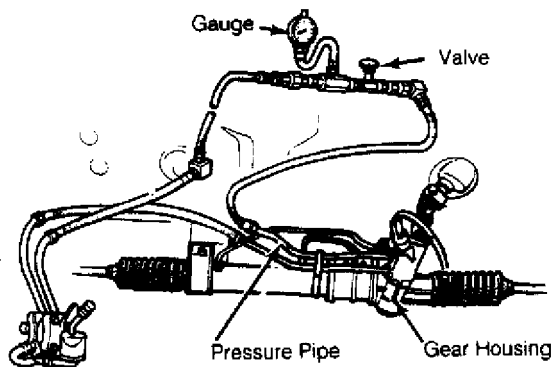

Fig. 1: Connecting Pressure Gauge/Valve
1) Disconnect pressure line from steering gear and steering pump. Connect pressure gauge/valve between steering pump and steering gear. See Fig. 1. Bleed air from system.